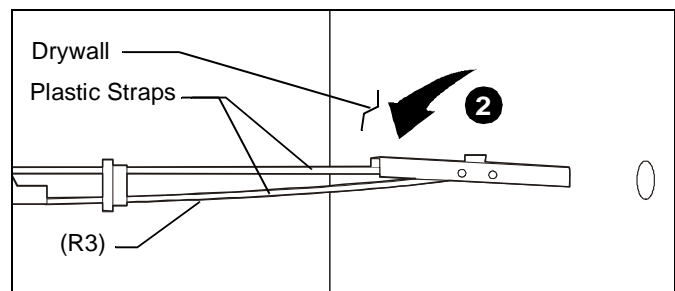

Figure 3
2. Hold metal channel on anchor (R3) flat alongside plastic straps and slide channel through hole. (See Figure 3)